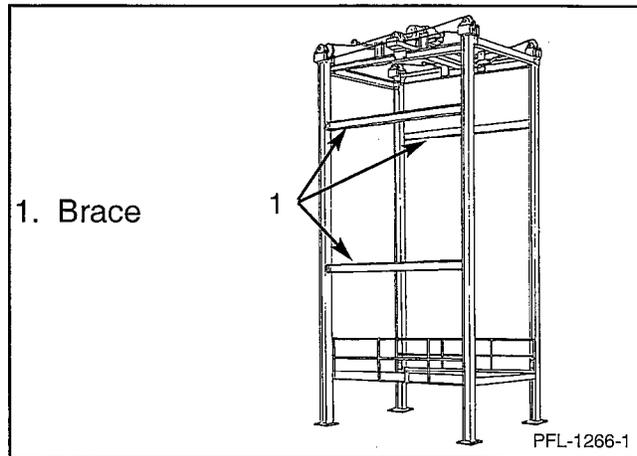

Figure 20
24. Plumb far side beams. (Maintain 1/8" clearance as described in Step 21.) Check dimensions from near to far columns (see beam-to-beam dimension from GA drawing). Due to mill tolerances, this is an approximate dimension. If you are within 1/4" you should be okay. It is more important to have columns plumb. See Figure 20.